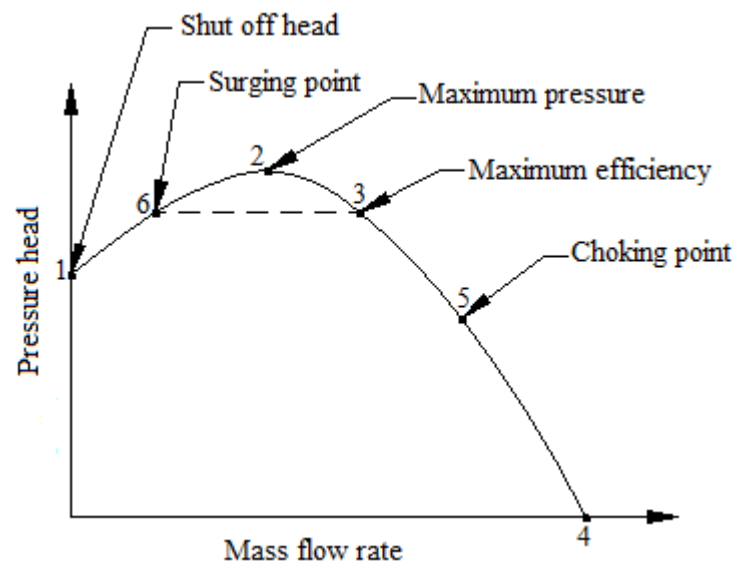

Fig. 7.8 Characteristic curve of centrifugal compressor
An idealized centrifugal compressor characteristic curve is shown in figure 7.8. Consider a centrifugal compressor delivering through a flow control valve situated after the diffuser. There is a certain pressure head, even if the valve is fully closed and is indicated by state 1. This pressure head is merely due to the churning action of the impeller vanes. The pressure head so developed is called “shut off” head. As flow control valve is opened, the air starts flowing and diffuser increases the pressure head. Thus, at state 2, the maximum pressure head is reached but the efficiency is just below the maximum efficiency.
Consider compressor is operating at the state 3 as shown in figure 7.8, if the mass flow is reduced by gradual closing of the flow valve, the operating point move on to the left. Further reduction in mass flow increases the pressure head until it reaches the maximum value. Any further decrease in flow will not increase the pressure head and hence reduces the pressure head to state 6. At this condition there is a large pressure in the exit pipe than at compressor delivery and the flow stops momentarily, and may even flow in the reverse direction. This reduces the exit pipe pressure, then compressor again starts to deliver the air and the operating point quickly shifts to 3 again. Once again the pressure starts increasing and operating point moves from right to left. If the exit pipe conditions are remain unchanged then once again the flow will breakdown after state 2 and cycle will be repeated with high frequency. This phenomenon is called surging.
**Answer:** When the mass flow is increased to the right of point 3 on the characteristic curve (as in figure 7.8) a state 5 is reached, where no further increase in mass flow is possible no matter how wide open the flow control valve is. This indicates that the flow velocity in the passage reaches the speed of sound at some point within the compressor and the flow chokes. Choking means fixed mass flow rate regardless of pressure ratio. Choking may take place at the inlet, within the impeller, or in the diffuser section. It will occur in the inlet if stationary guide vanes are fitted.